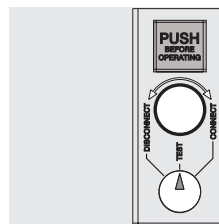

Figure 41
- circuit-breaker in test position (see Figure 41).